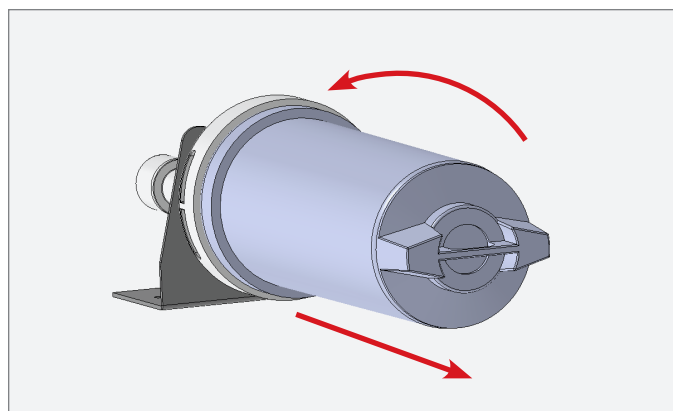

FIG. 1. Rotate the existing water filter counterclockwise and pull.
2. Rotate the water filter counterclockwise and pull the filter from the unit. See fig. 1.